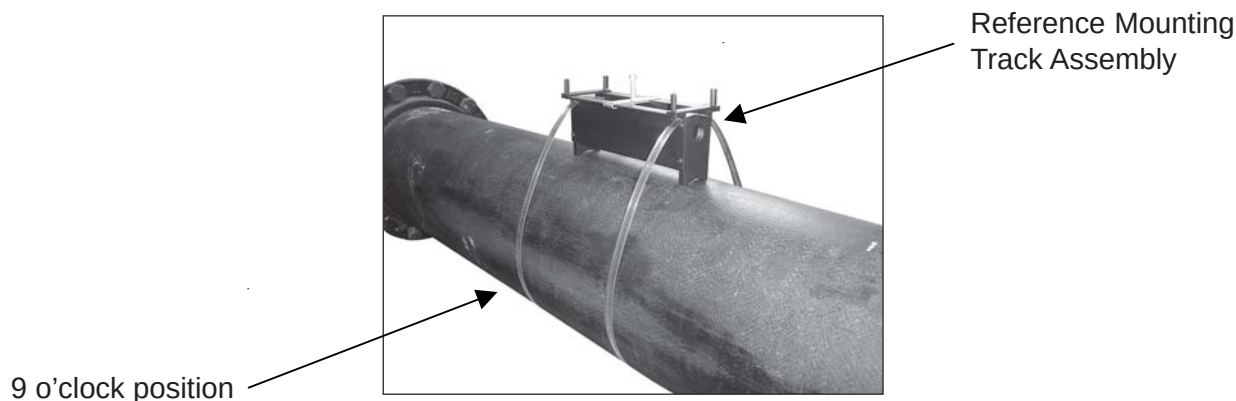

Figure 1
- Select transducer mounting location (3 or 9 o'clock position) and prepare surface of pipe (Figure 1). Smooth irregular surfaces and clean pipe of dirt, grease and rust (see paragraphs 3.3.2 and 3.3.4).